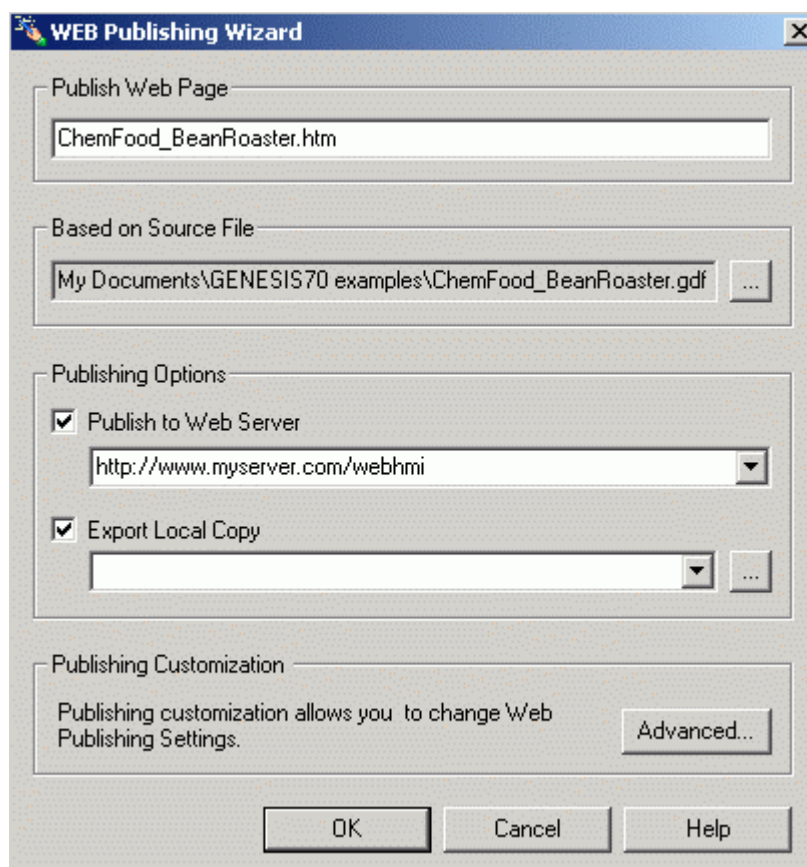

Figure 4.4. Web Publishing Wizard Dialog Box
4. This launches the **Web Publishing Wizard** configuration dialog box, as shown in **Figure 4.4**. This dialog box serves as the interface through which you export/publish GraphWorX32 display files to the Web.